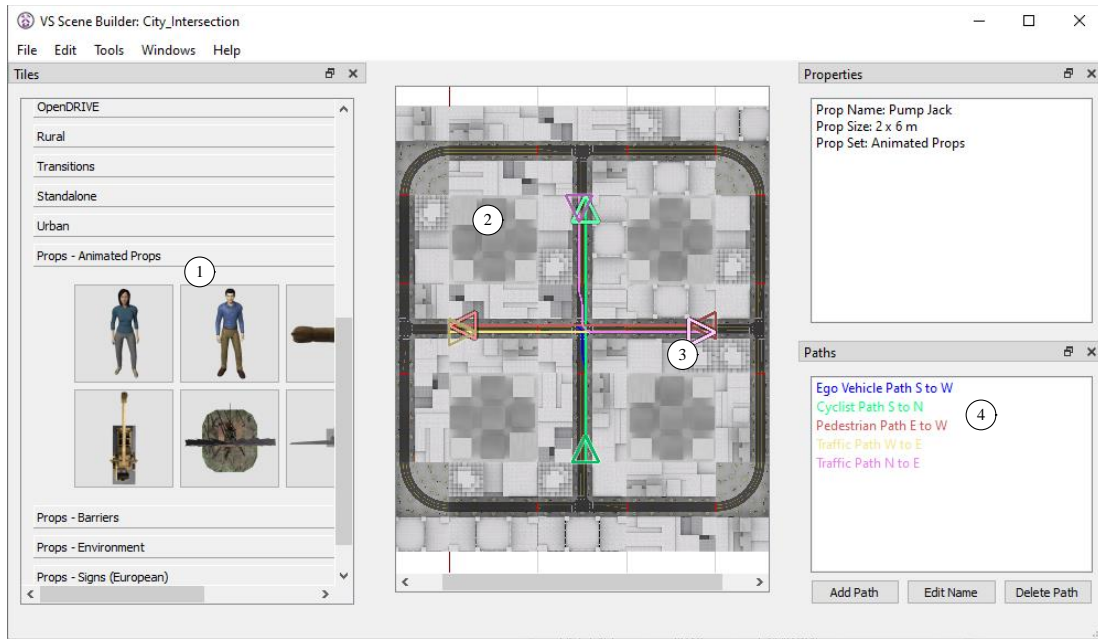
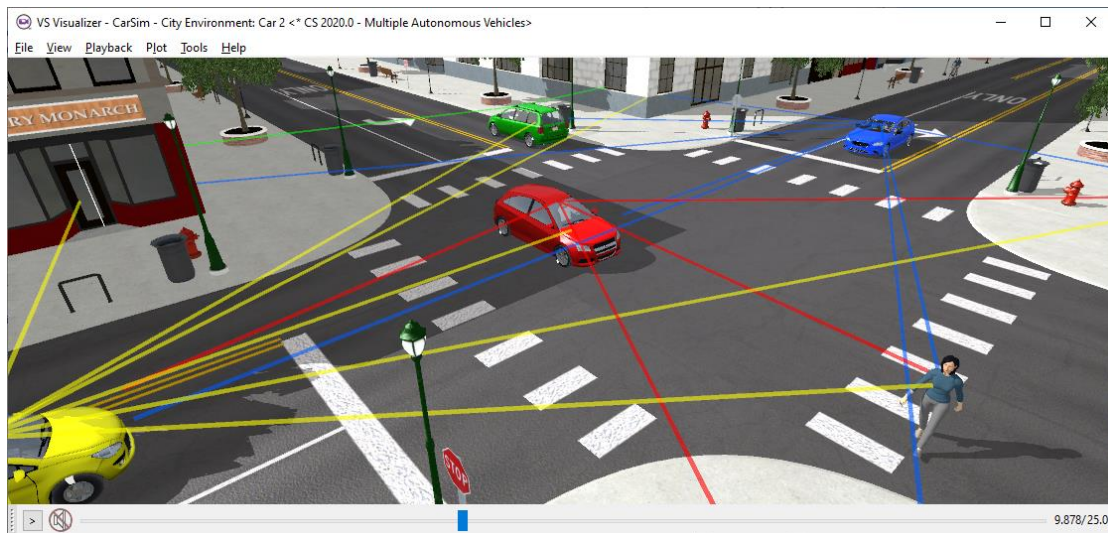

Figure 18. VS Scene Builder tool from CarSim.
Figure 19. Urban scene with buildings and roads from VS Scene Builder.
CarSim includes the VS Scene Builder, a tool for assembling a scenario from a library of tiles and 3D assets such as animated pedestrians, barriers, and signs (1) (Figure 18). The tiles are connected to form a scenario region (2), and a path or series of paths are created by clicking on the arrows presented on the tiles (3). These paths, along with the terrain and animation assets that make up the tiles, are imported into CarSim (4) to define the driving environment. Figure 19 shows the urban scene in VS Visualizer after it has been imported into CarSim.
**Multiple vehicles in a single solver instance.** Starting with version 2020.1, the VS Math Model can be constructed to include up to four independent vehicles. Each vehicle has its own set of controls (open-loop and/or closed-loop, powertrain, brake system, etc.). All vehicles share the same environment with the same ground surface, paths available for controllers, and other “actors” such as pedestrians. Each vehicle can be detected by other vehicles. Figure 19 (page 16) shows four complete vehicles all running in the same environment. See **Help Tech Memos > Simulations with Multiple Vehicles**. (BikeSim does not support this option.)
**Co-Simulation with Parallel CarSim Solvers.** Up to 20 VS Solver libraries can be used in parallel under MATLAB/Simulink, dSPACE SCALEXIO, Concurrent SimWB, NI Linux RT, or ETAS RT. These are set up using a dedicated GUI screen (**Tools > Parallel Solvers**) in which a CarSim VS Solver library is duplicated and given a unique name. These VS Solver libraries — along with their associated data — will all be loaded into a single simulation. The example simulation shown in Figure 19 (page 16) can also be run under the control of Simulink. See **Help > Tools > Running with Parallel Vehicles**.